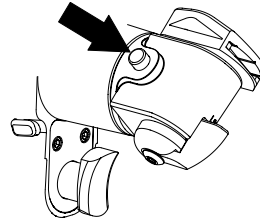

Figure 2 To Index Head Push the Button
1. Push and hold the index button; rotate the sagittal head to the desired cutting angle (see figure 2).